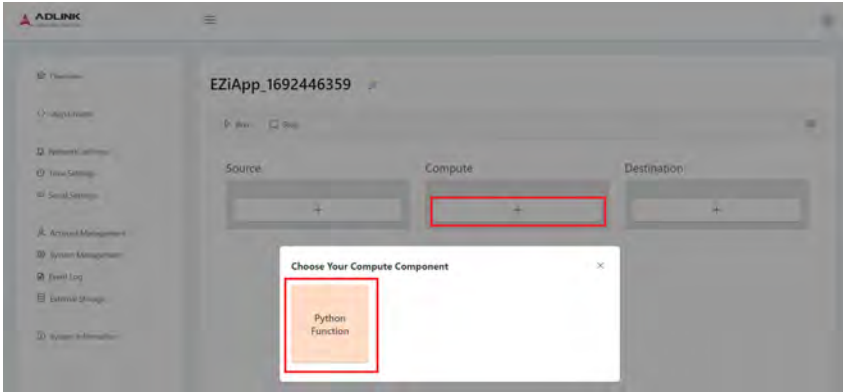

Figure 3-9: Create Compute
3. **Data Conversion by Compute:** Upon receiving the sensor data from the Modbus server/slave, EGiFlow iApp can perform any required data conversion or formatting to prepare it for RESTful API transmission. This may involve transforming the data into a compatible format, applying preprocessing or aggregation, and organizing it according to the RESTful API payload structure. (See Figure 3-9)